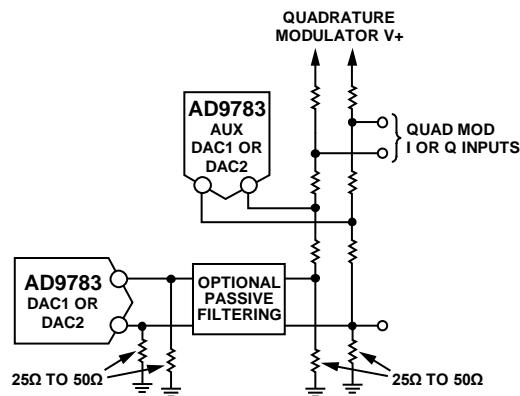

Figure 67. DAC DC-Coupled to Quadrature Modulator with a Passive DC Shift
In a single sideband transmitter application, the combination of the input referred dc offset voltage of the quadrature modulator and the DAC output offset voltage can result in local oscillator (LO) feedthrough at the modulator output, which degrades system performance. The auxiliary DACs can be used to remove the dc offset and the resulting LO feedthrough. The circuit configuration for using the auxiliary DACs for performing dc offset correction depends on the details of the DAC and modulator interface. An example of a dc-coupled configuration with low-pass filtering is shown in Figure 67.